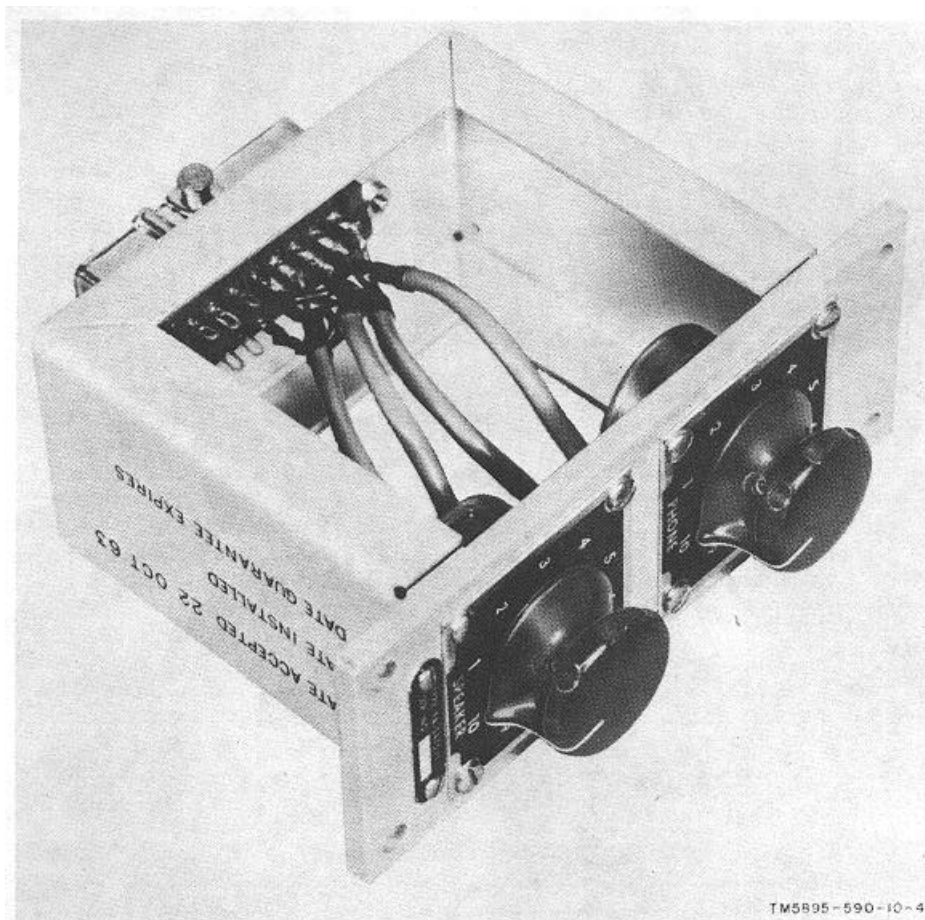

Figure 1-9. Control, Receiver Volume C-7684/FSQ-75(V)
(3) *Control, Receiver Volume C-7684/ FSQ-75(V)* (fig. 1-9). The receiver volume control is an assembly of two potentiometers and the necessary connectors. The unit consists of a front panel upon which the two potentiometers are mounted. One potentiometer controls speaker audio level; the other controls headset audio level. A connector jack is mounted at the rear of the chassis. Receiver volume controls are mounted in groups of three (fig. 3-1) to control 12 receiving channels.